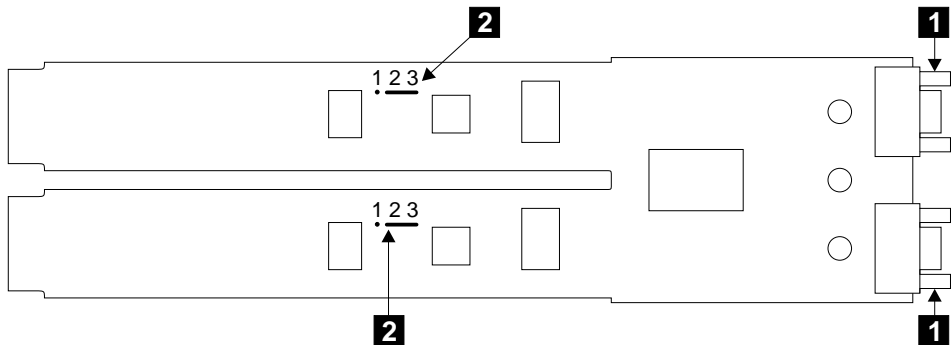

Figure 118. Jumpers Set for Automatic Mode
- Step 10. Note that in Figure 118, the jumpers are set for **Automatic mode**. That is, the jumpers **2** connect pins 2 and 3.